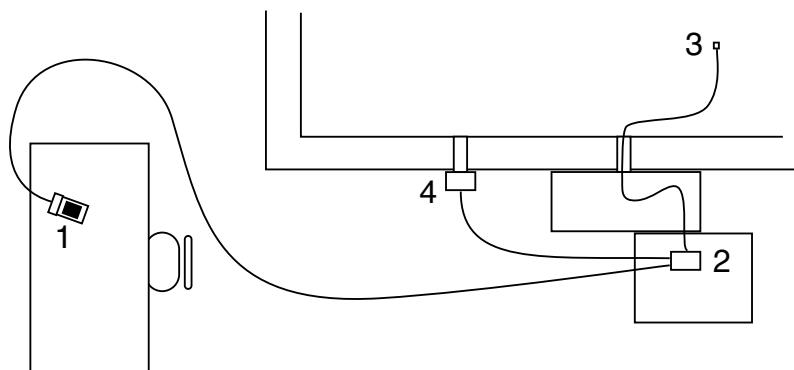

Figure 7.3.. The intercom system. For explanations, see chapter 7.2.1.
Figure 7.3 illustrates the system. It is composed of a table station (1) and main station with power supply (2). The microphone (3) of the main station is inside the magnetically shielded room. The microphone cable runs to the main station via the feedthrough filter. The loudspeaker for main station is outside of the magnetically shielded room attached on a separate feedthrough tube on the magnetically shielded room wall (4).